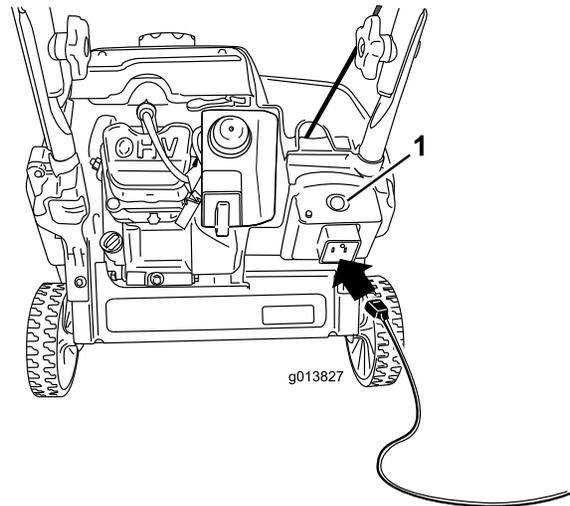

**Figure 17**
3. Firmly push in the primer with your thumb as indicated by the table below, holding the primer in for a second before releasing it each time (Figure 17).